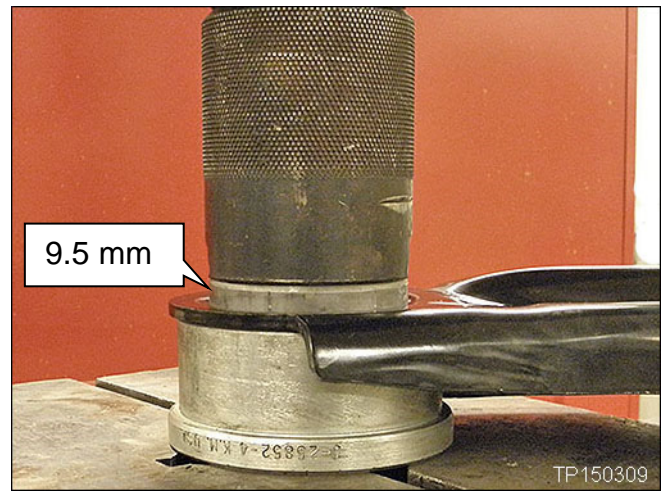

Figure 7
7. Press the bushing to a position 9.5 mm above the transverse link (see Figures 7 and 8).